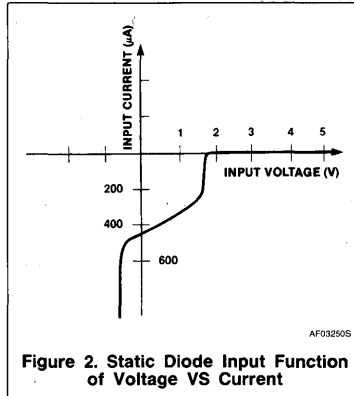
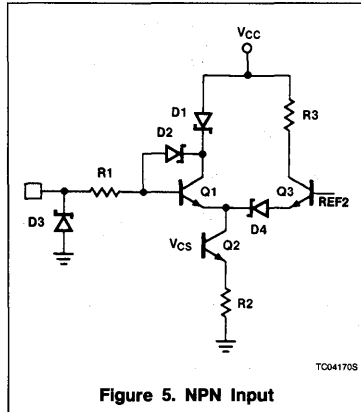
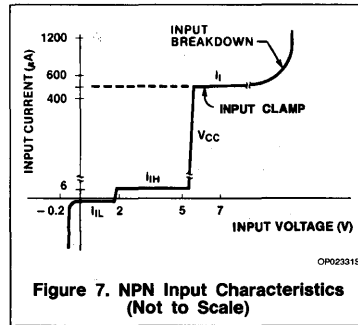

Figure 2. Static Diode Input Function of Voltage VS Current
Figure 5. NPN Input
Figure 7. NPN Input Characteristics (Not to Scale)
The static diode input function of voltage versus current is shown in Figure 2. If the pin voltage is negative, most of the relatively high negative current flows through the clamp Schottky D2. At 0V the current flows from V_{CC} through R1 and D1 to the pin. Switching from a logic Low level to a logic High level occurs when the input pin voltage rises high enough to force the current from the D1 path to the Q3 - Q2 - Q1 path. This happens when the base voltage of transistor Q3 is at three base-emitter drops (3V_{BE}), and the pin is at 2V_{BE}, which is the standard FAST threshold switching voltage. At this voltage the input current is very small, just the leakage currents of diodes D1, D3, and clamp diode D2. The current remains at this small, positive value until breakdown voltage is reached.
The current of Figure 2 is scaled for the case where the pin is required to pull down a single 10KΩ resistor R1 (20µA maximum in the High state and 0.6mA maximum in the Low state), which is defined as a standard FAST Unit Load (UL). For some parts, pin current can exceed a UL, especially in the logic Low state. This will happen if the pin must sink the current from more than one R1 resistor, or if the value of R1 is less than 10KΩ, which will be the case if the capacitance at the base of the transistor Q3 is too large for the required switching speed. In this event, the actual number of ULs is listed for each input in the specification sheet for the part. Note: UL, as defined here, is less than the normally defined Schottky TTL Unit Load. The correlation is one Schottky Unit Load = 1.67 ULs. This is an important point to remember for fan-in and fan-out calculations in systems that mix FAST with other TTL families.
The NPN input is shown with two variations in Figures 5 and 6. It has limited use in standard TTL circuits, and is used in selected FAST devices, especially where its superior high-impedance input characteristics are useful. A typical plot of static input current versus input voltage is shown in Figure 7. There are some significant differences between this function and that of the diffusion diode input shown in Figure 2, the most important being the much lower input current in the region from 0V to
age, as shown by the I_i plateau in Figure 7. I_i provides a clamping action to ground for pin voltages in excess of V_{CC} , which is usually desirable to reduce overshoot.
For the case where V_{CC} is grounded or floating, the input current is nearly zero for positive voltages between zero and approximately 7V. The conducting path through R1 - D2 - Q1 is available, but the current source Q2 will be shut off because, without V_{CC} drive, the Q2 base reference V_{CS} will be at 0V. This is the specified standard setup for incoming inspection. For the incoming inspection testing case where V_{CC} is connected to a 5V source, the response is shown in Figure 7. The current remains on the Q2-limited plateau until the pin voltage is high enough to cause non-destructive collector-emitter reach-through of Q2. At this point, input current increases as the pin voltage rises, and R1 functions to limit this current and prevent damage to Q2.
The current-mode logic interface is shown in Figure 5. The output voltage is the drop across R3, and is referenced to V_{CC} (or some on-chip regulated voltage lower than V_{CC}) as is required for current-mode logic. For this case, voltage reference REF2 is normally fixed at $2V_{BE} + 1$ Schottky drop to provide a pin threshold voltage of $2V_{BE}$. In fact, REF2 can be tailored to set the switching threshold voltage to any desirable level; it can be set to something other than an integral number of